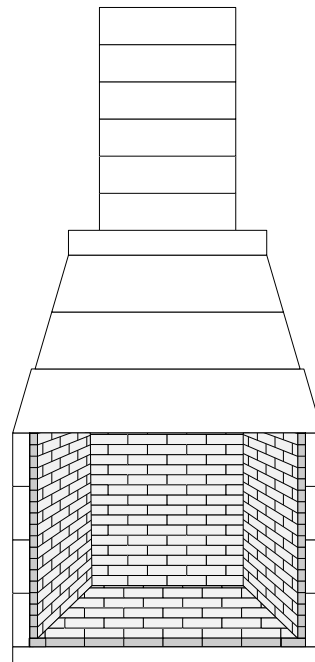

FIGURE 9.3
6. Apply firebrick to the side walls, starting at front of box and moving back, covering the expansion gaps along the floor and back wall with the overlap of brick, but leaving it free of mortar (Figure 9.3).